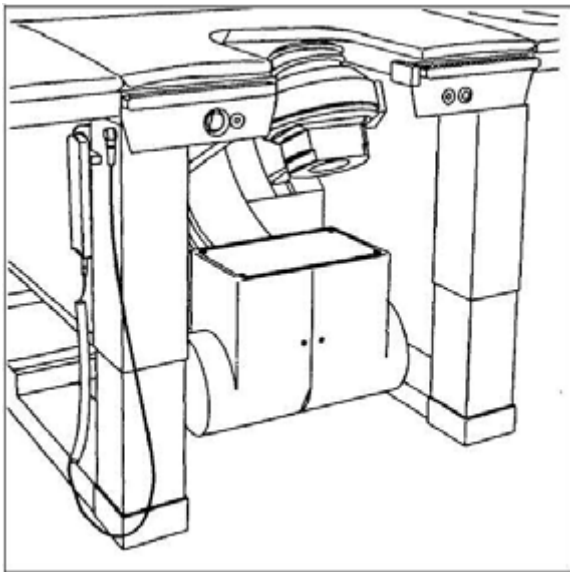

Fig. 22: Lifting column
- Remove all covers of the lifting column affected ((Fig. 22 / p. 57))